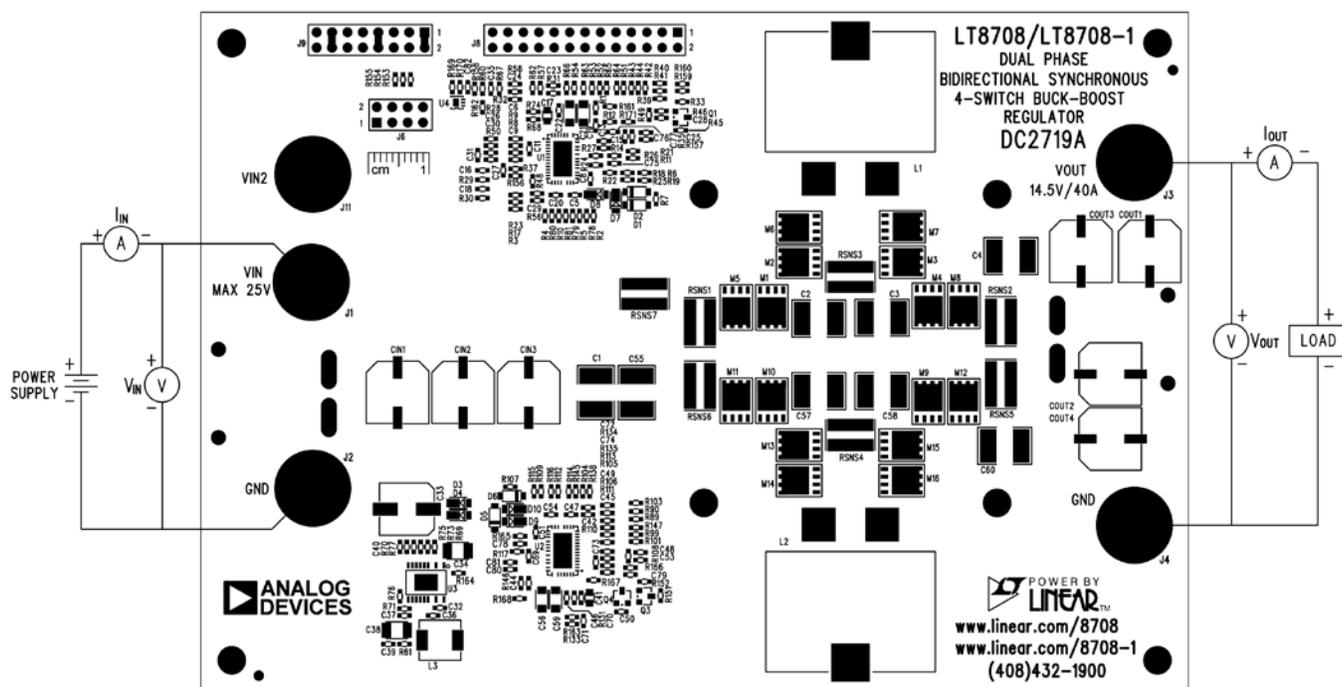

Figure 3. Test Setup
1. Demonstration circuit 2719A is easy to set up to evaluate the performance of the LT8708. Refer to Figure 3 for proper measurement equipment setup and follow the procedure below.